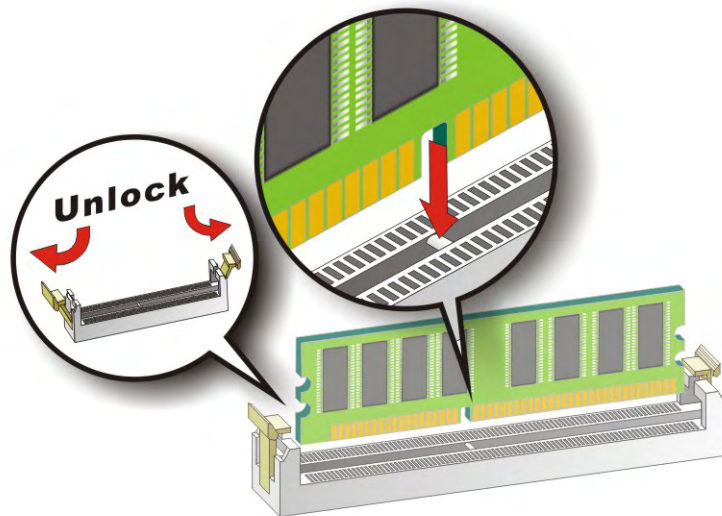

Figure 5-3: Installing a DIMM
To install a DIMM into a DIMM socket, please follow the steps below and refer to **Figure 5-3**.
- Step 1: Open the DIMM socket handles.** The DIMM socket has two handles that secure the DIMM into the socket. Before the DIMM can be inserted into the socket, the handles must be opened. See **Figure 5-3**.
in the socket. See **Figure 5-3**.
Step 3: Insert the DIMM. Once properly aligned, the DIMM can be inserted into the socket. As the DIMM is inserted, the white handles on the side of the socket will close automatically and secure the DIMM to the socket. See **Figure 5-3**.